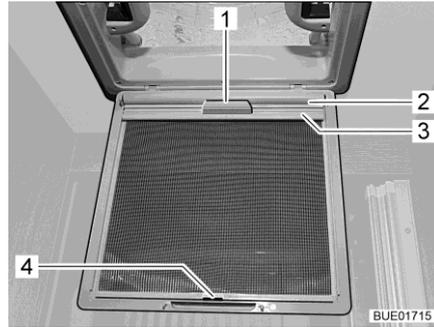

Fig. 126 Blind (skylight)
- Using the handle (Fig. 126,1), pull out the blind (Fig. 126,2) and hook the retainer (Fig. 126,3) into the hook (Fig. 126,4) on the insect screen.
- Release the retainer (Fig. 126,3) from the hook (Fig. 126,4) and, using the handle (Fig. 126,1), slowly return the blind (Fig. 126,2).